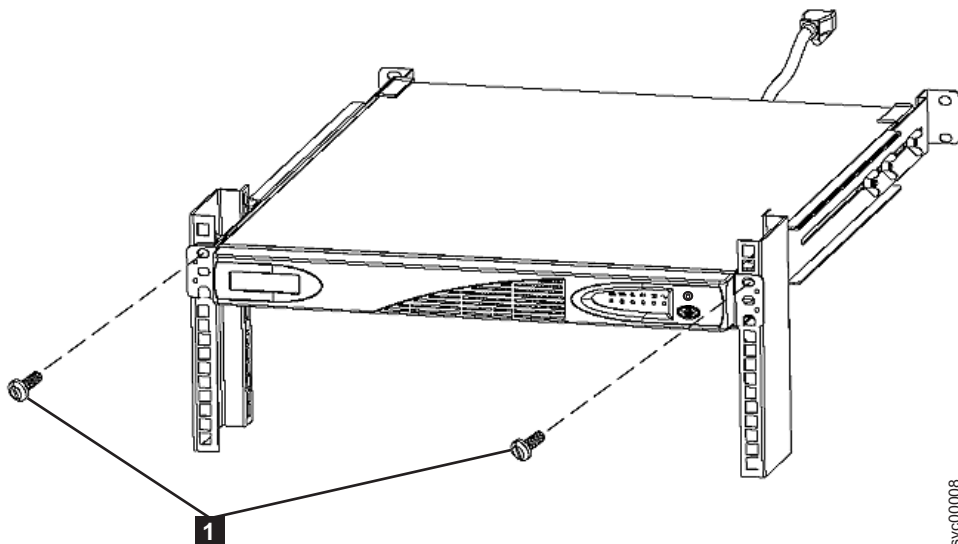

Figure 213. Removing the front screws from the 2145 UPS-1U
1. Loosen and remove the two M6 × 10 screws from each side of the 2145 UPS-1U. See **1** in Figure 213.